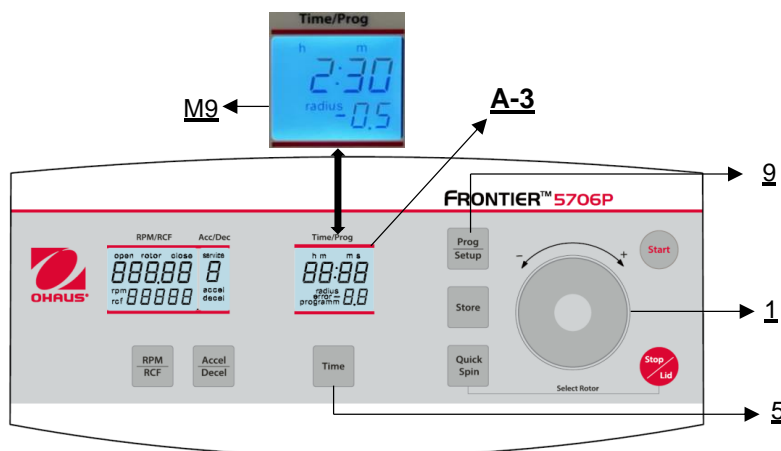

Figure 20
First, close the centrifuge lid, then press the key **"Time"** (5) and the key **"Prog/Setup"** (9) at the same time and hold them (see Figure 20).